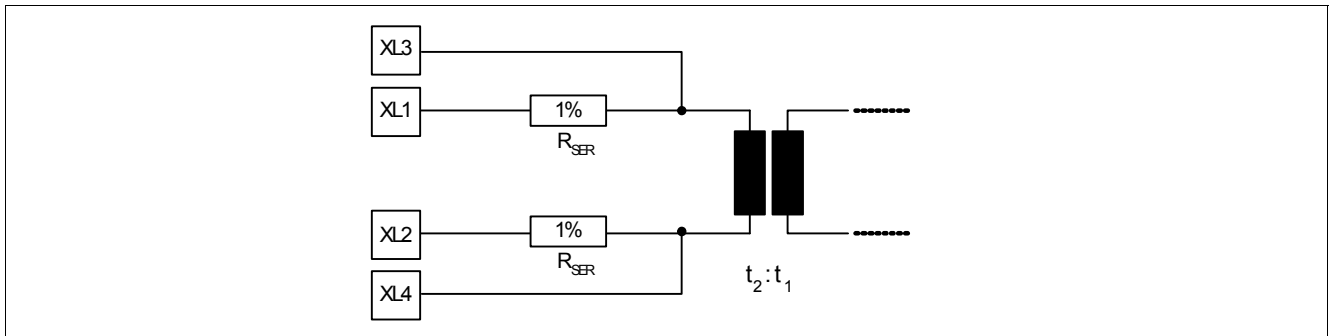
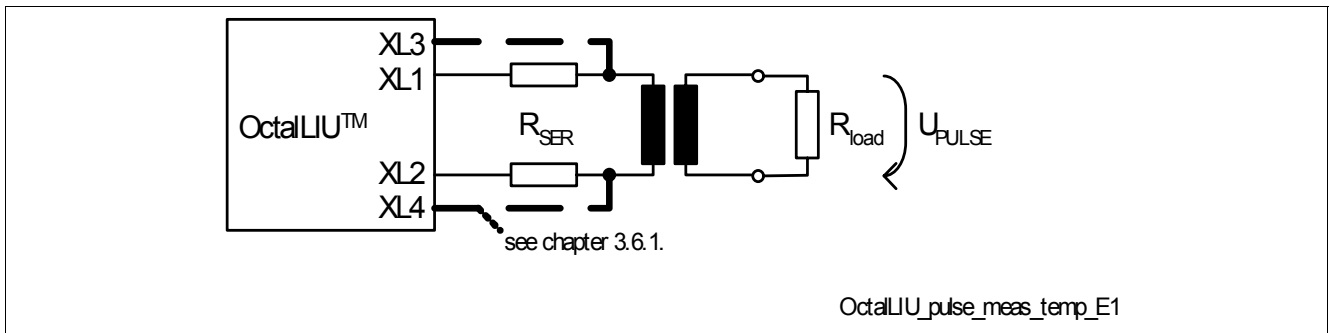
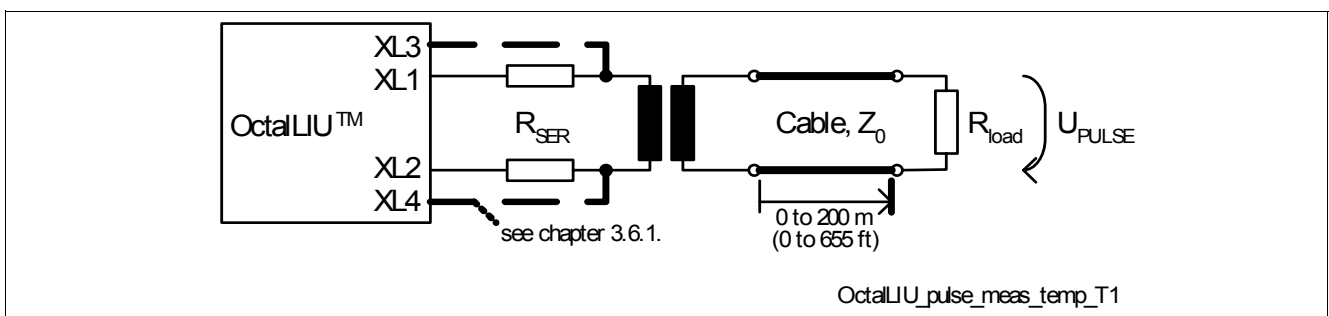

Figure 30 Transmit Line Interface
Figure 32 Measurement Configuration for E1 Transmit Pulse Template
Figure 33 Measurement Configuration for T1/J1 Transmit Pulse Template
The principle transmit line interface is shown in Figure 30. Two application modes are possible:
- For generic E1/T1/J1 applications with optimized return loss the transmit output resistance is configured by using the pins XL3 and XL4 as shown in Figure 30. The operation mode (E1/T1/J1) is selected by software (register bit PC6.TSRE) without the need for external hardware changes: Here  $R_{SER}$  is always  $2 \Omega$ , see Table 23.
- For T1: FCC68; ANSI T1. 403 1999, figure 4; ITU-T G703 11/2001, figure 10 (for different cable lengths), see Figure 56 and Figure 33 for measurement configuration were  $R_{load} = 100 \Omega$
- For E1: ITU-T G703 11/2001, figure 15 (for 0 m cable length) see Figure 55; ITU-T G703 11/2001, figure 20 (for DCIM mode), see Figure 32 for measurement configuration were  $R_{load} = 120 \Omega$  or  $R_{load} = 75 \Omega$
If LBO attenuation is selected, the programming of XPM(2:0) will be ignored. Instead the pulse shape programming is handled internally: The generated pulse shape before LBO filtering is the same as for T1 0 to 40 m. The given values are optimized for transformer ratio: 1 : 2.4 and cable type AWG24 using transmitter configurations listed in Table 23 and shown in Figure 30. The measurement configurations of Figure 32 with  $R_{load} = 120 \Omega$  and Figure 33 with  $R_{load} = 100 \Omega$  are used.
The given values in **Table 26** and **Table 27** are optimized for transformer ratio: 1 : 2.4; cable: AWG24 and configurations listed in **Table 23** and shown in **Figure 30**.